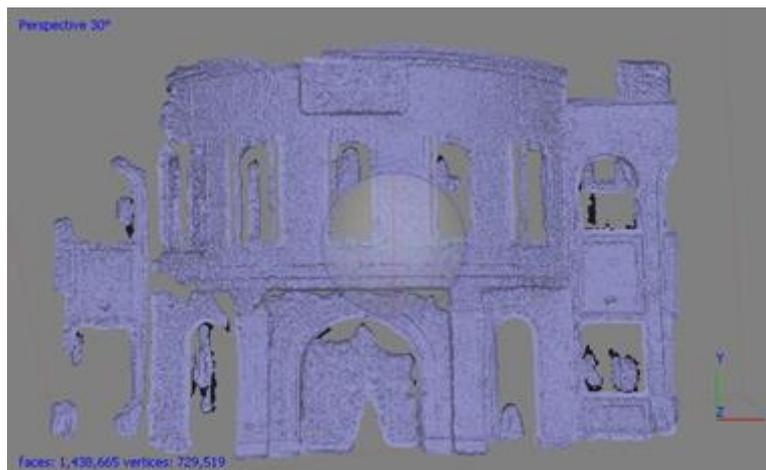

Fig 20:- Build Mesh process by Interpolation: Enabled setting.
*Extrapolated* generates meshes between discrete points and speedily fills holes, included large holes (Fig. 20). So, if the aim of a Photogrammetry project is to obtain accurate, the *Disabled Interpolation* setting is the best. On the other side, when visualization is the purpose of the Photogrammetric modeling, *Enabled* is the preferable.